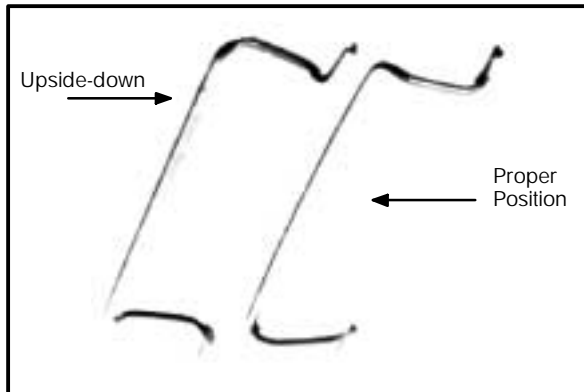
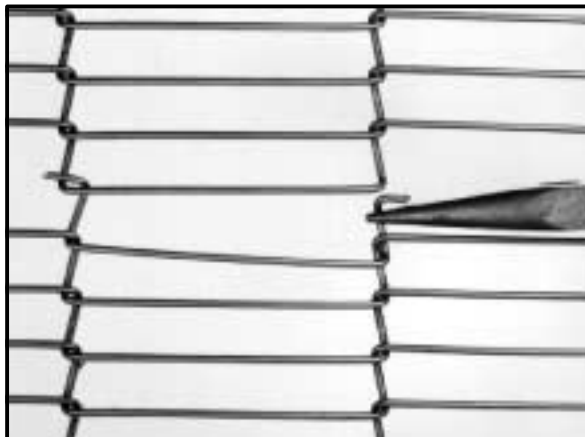

Figure 11
Figure 12
4. Install inner master links. See Figure 11 and Figure 12.